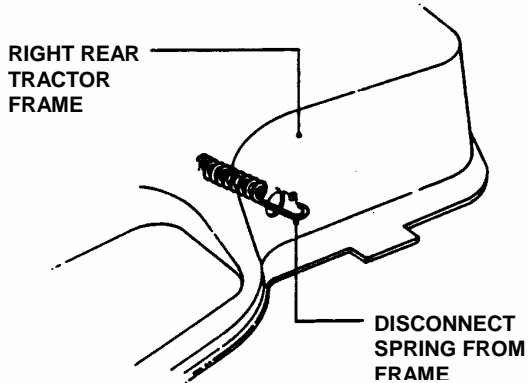

FIGURE 4.26
3. Disconnect traction belt idler pulley spring from tractor frame. See Figure 4.26.